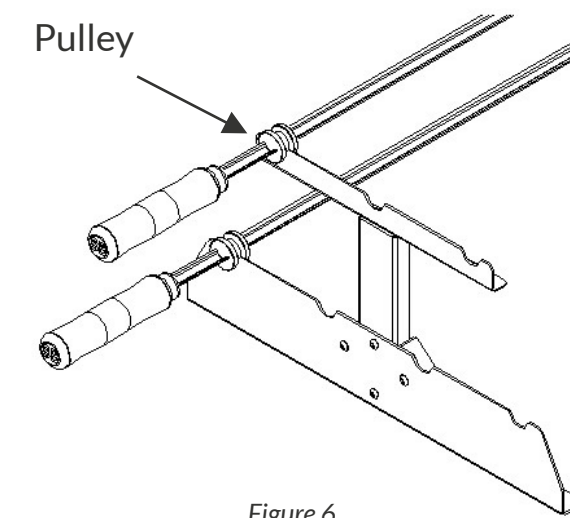

Figure 6
d) After securing the parts, adjust the Pulley on the skewers. The Pulley should be loosened and its groove positioned in the center of the Front Support (Figure 6). Then, retighten the screw that secures the Pulley to the skewer, ensuring it is firm, preventing the skewer from disengaging from the Rear Structure and falling into the fire.